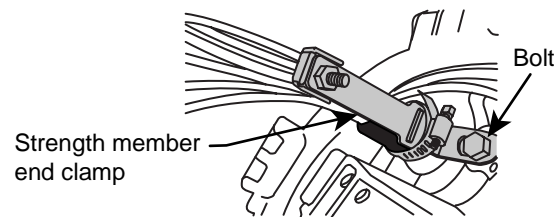

Figure 12
1. Maneuver the cable and attachments back to the endcap. With the bolt provided, attach the lower side of the strength member end clamp to the endcap threaded insert and fully tighten for creep-in/pull out requirements (Figure 12).